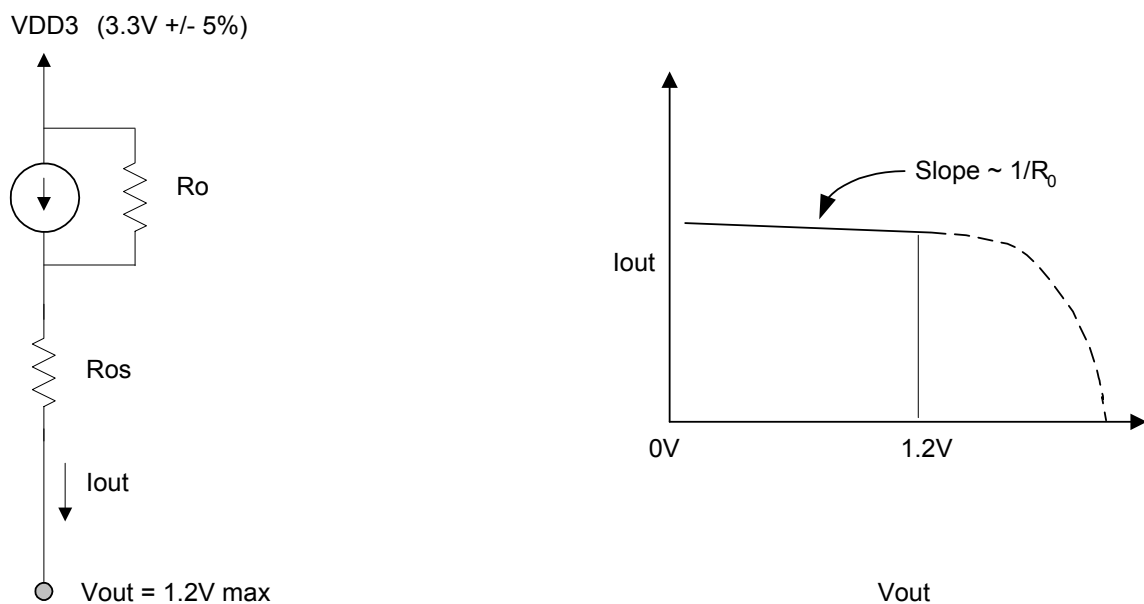

Figure 4. Buffer Characteristics
1. Output impedance of the current mode buffer circuit— R_o (see Figure 4).
2. Minimum and maximum required voltage operation range of the circuit— V_{op} (see Figure 4).
3. Series resistance in the buffer circuit— R_{os} (see Figure 4).